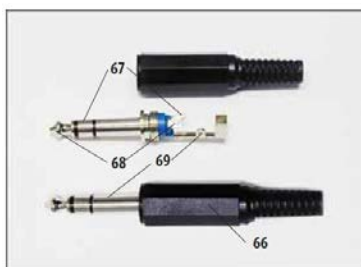

Fig. 63
Each alarm is connected to the plug (66) as follows (Fig. 63):